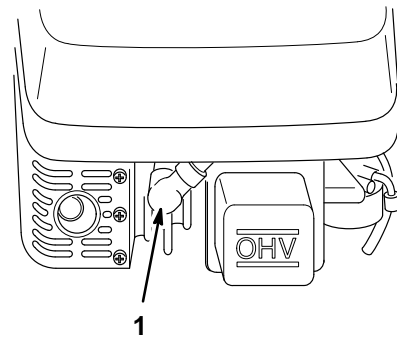

Figure 6
- Pull the wire off of the spark plug (Fig. 6).
- Connect the spark plug wire (Fig. 6).